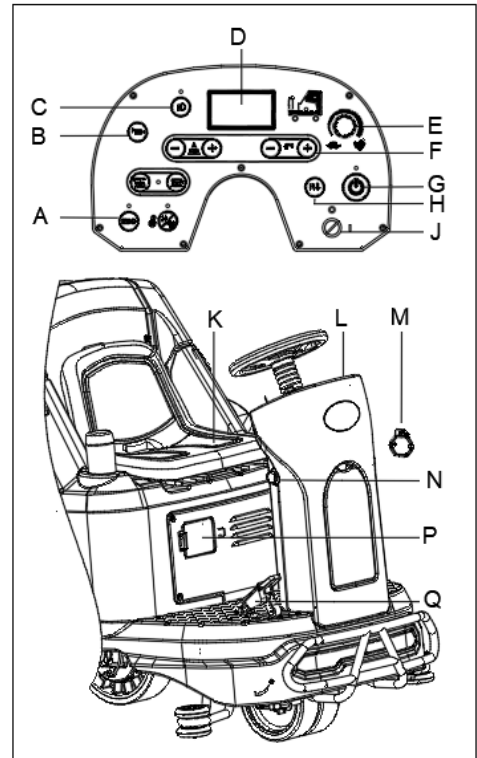

Figure 13
2. Sit on the seat (K, Figure 13), insert the Ignition key (J, Figure 13) and turn it to “I”. Check batteries status from display screen. If necessary, to charge the batteries (see the procedure in Maintenance chapter).
The forward/reverse direction can be controlled with the switch (H, Figure 13). The speed can be adjusted with the adjuster (E, Figure 13).
4. Press One-Start button (G, Figure 13) to start the machine, the squeegee and brushes are lowered to the floor automatically, and the vacuum motor begins to work.
5. Press the solution flow control buttons (F, Figure 13) as necessary, depending on the type of cleaning to be performed.
6. Depress the accelerator pedal (Q, Figure 13), and start cleaning.
7. You can charge your phone or pad through USB charging port (M, Figure 13) when the Ignition key (J, Figure 13) is turned to "I".
8. Press the horn button (B, Figure 13) to warn people when necessary.
9. If necessary, press the emergency button (N, Figure 13) for machine emergency stop.
10. If necessary, press the front lights button (C, Figure 13) for dark areas or to warn pedestrians.
11. If necessary, adjust the seat (K, Figure 13) by turning right the handle on the right of seat, then slide the seat to proper position.
The brush motor, vacuum motor, drive motor and control circuit are protected by overload protector (P, Figure 13). When an overload protector trips, do not reset it immediately without finding out the root cause, and make sure the motor has cooled before reset.
12. Release the accelerator pedal (Q, Figure 13), the machine stops running.
13. Press One-Start button (G, Figure 13) to stop brushes and vacuum motor. The brushes and squeegee are lifted from the floor automatically. The vacuum system will turn off after a few seconds.